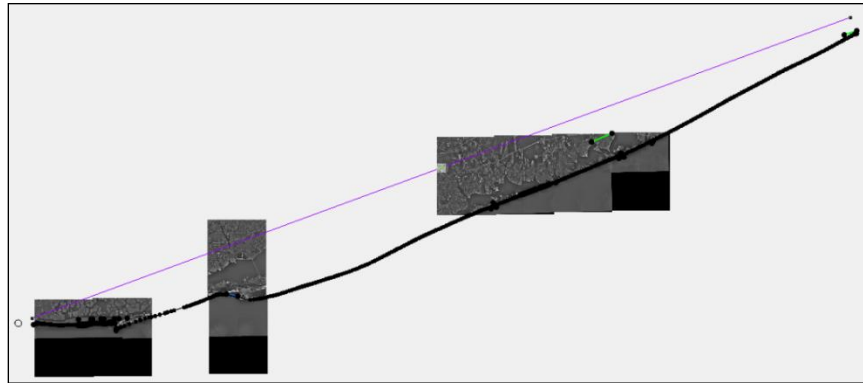

Figure 9 Location of 1D grid frame
3. Using the **Create 1-D Grid Frame**  tool, click once just above the top-right of the project coastline to create a start point, then a second time just to the left of the Jones Inlet images to create the end point for the 1D grid (Figure 9).